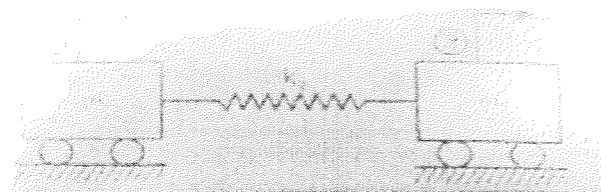

Fig.3
5. Determine the natural frequency and the mode shape of the system shown in Fig 3 by Holzer's method. $m_1=2\text{ Kg}$, $m_2=4\text{ Kg}$ $m_3=2\text{ Kg}$, $k_1=5\text{N/m}$, $k_2=10\text{N/m}$